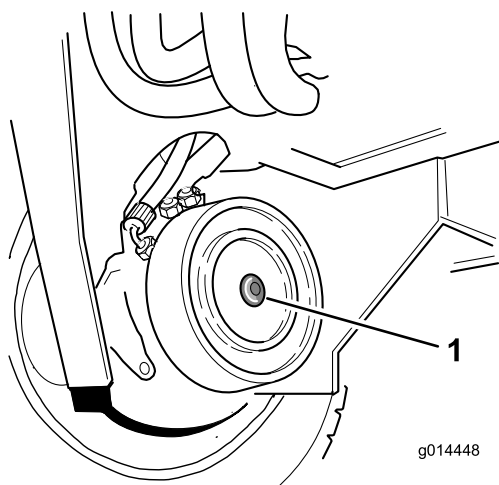

Figure 45
2. Identify the right, front disc brake assembly and remove the hex plug (Figure 45).